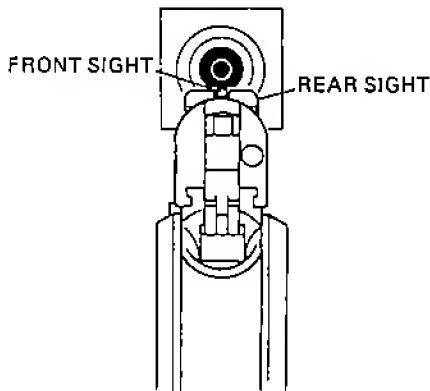

FIGURE 5-AIMING
3. Grasp pistol by stock and, keeping your finger outside the trigger guard, take aim. Aim by aligning target with front and rear sights. (See Figure 5). After identifying your target and seeing that it is clear to shoot, focus on the front sight. Be sure you have a safe backstop. THINK! What you will HIT if you MISS the target.